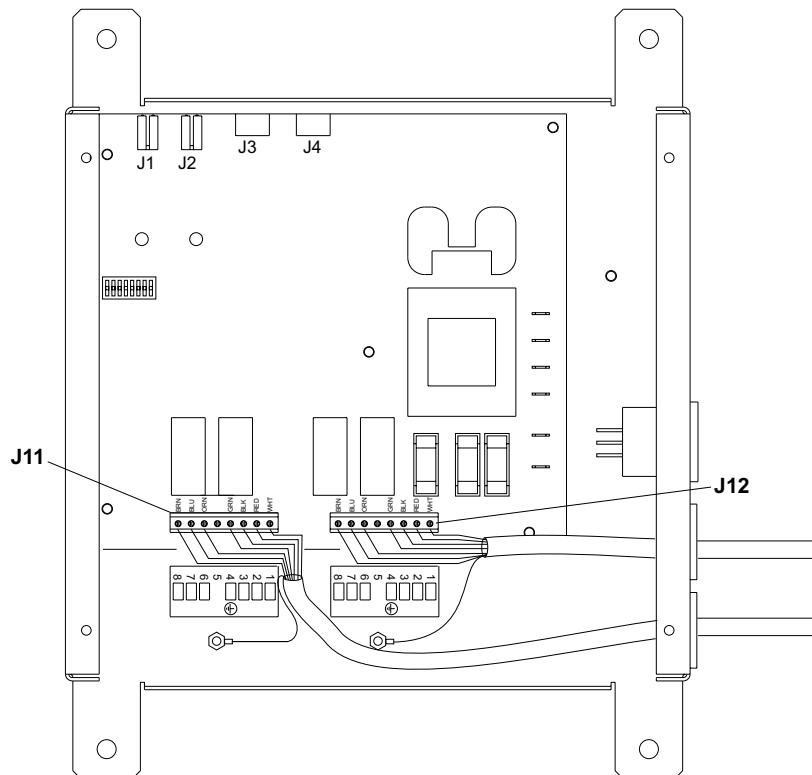

Figure 9
- Remove the cover of the Pin Ball Wizard controller and locate "J11" and "J12" terminal strips. Refer to *Figure 9*.